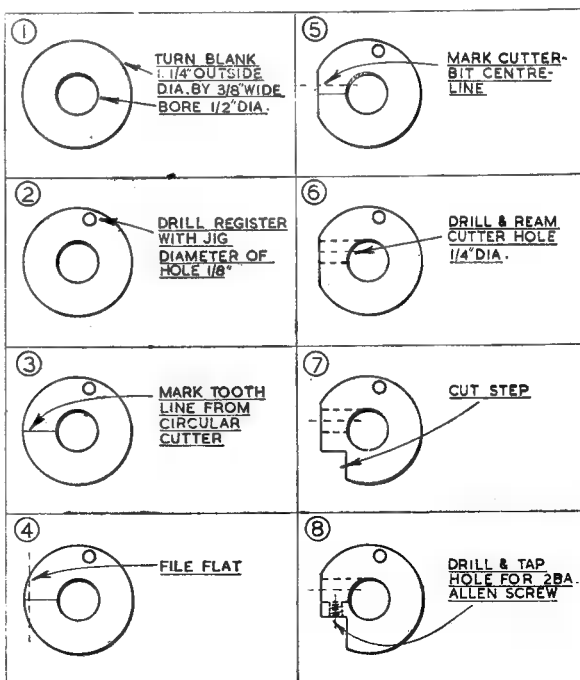

Fig. 45. Machining the fly-cutter carrier
machining the body are represented in the operational drawings in Fig. 45.
As shown in Fig. 45 (3), a line is scribed from